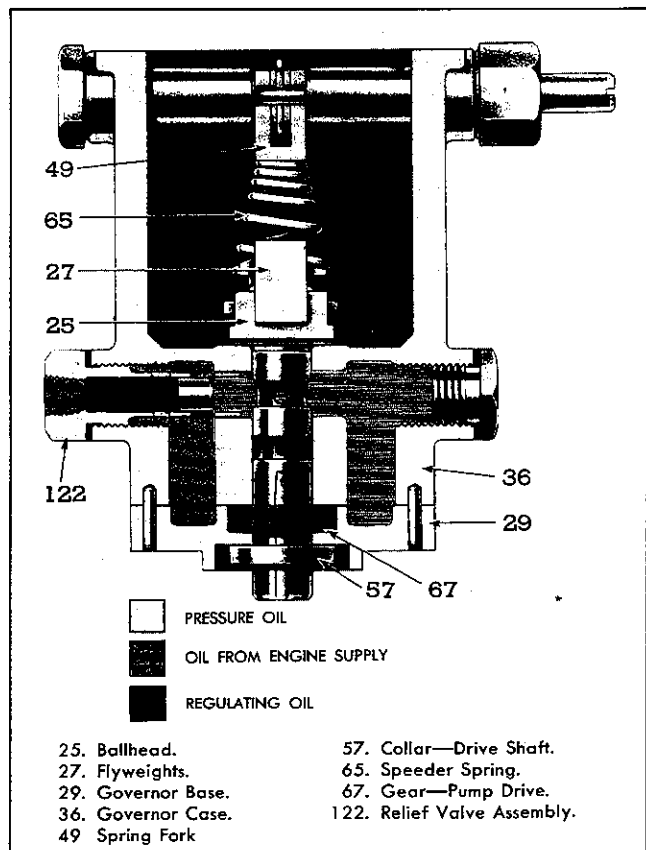
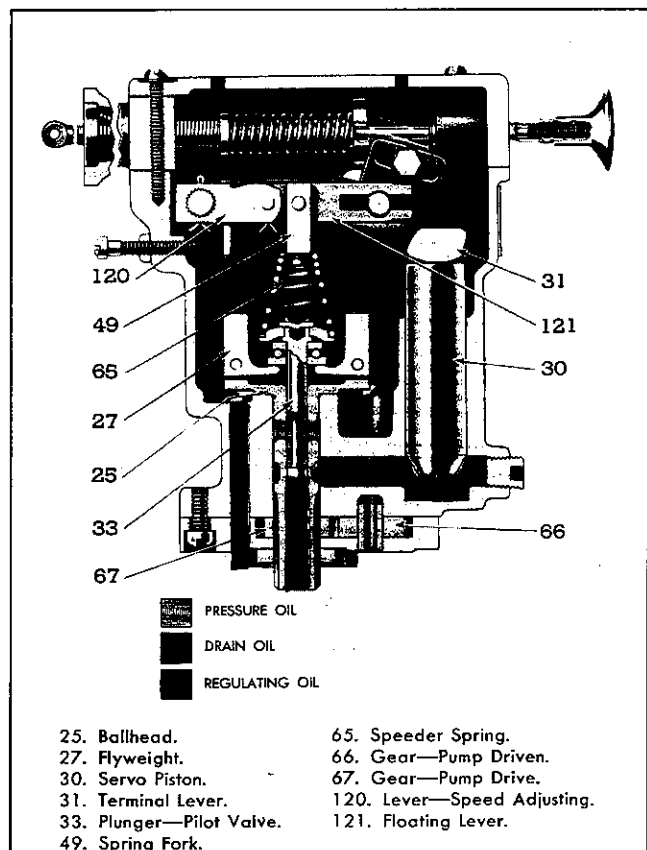

Fig. 31—Cross Section of Governor Showing Function of Pressure Relief Valve.
Fig. 32—Stable Position of Governor Mechanism When Load on Engine Is Constant.
Operation—As the engine runs, oil from the lubricating system is admitted to the gear pump in the governor base. The governor gear pump then raises the oil pressure to a value determined by the spring in the relief valve assembly opposing the relief valve plunger as shown in Fig. 31. The oil, now under pressure, is maintained in the annular space between the small diameter of the pilot valve plunger (33) and the bore in the ballhead.(25) as shown in Fig. 32.
(65) has a definite compression force which is opposed by the centrifugal force of the flyweights (27). When these two forces are in equilibrium, the land on the pilot valve plunger exactly covers the lower ports in the ballhead, thus producing a constant speed condition as shown in Fig. 32.